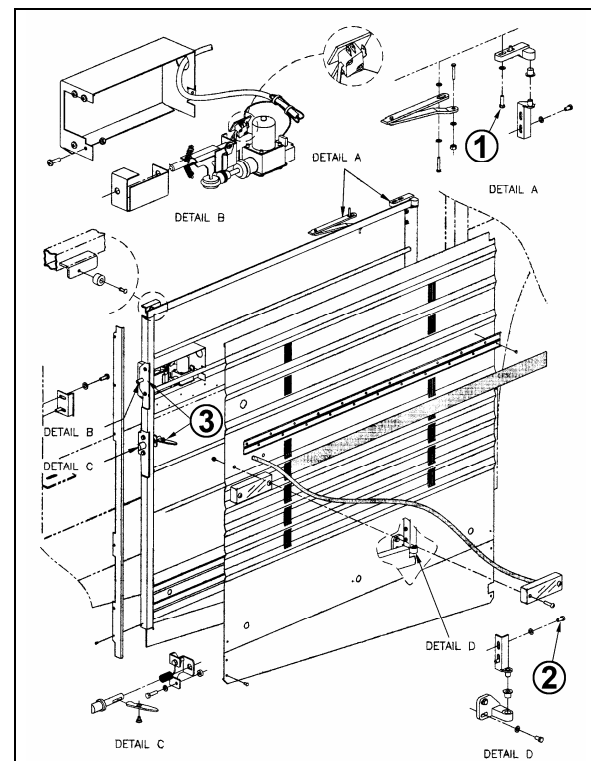

FIGURE 30: ENGINE COMPARTMENT R.H. SIDE DOOR¹⁸⁶³⁵
1. Loosen the bolts, (1, Fig. 30) holding the hinge to the vehicle structure to shift the door "IN or OUT" and "UP or DOWN".
2. Loosening the bolts (2, Fig. 30) allows the door to be shifted "LEFT or RIGHT" and "UP or DOWN".
To adjust the latch mechanism (3, Fig. 30) and the striker pin: